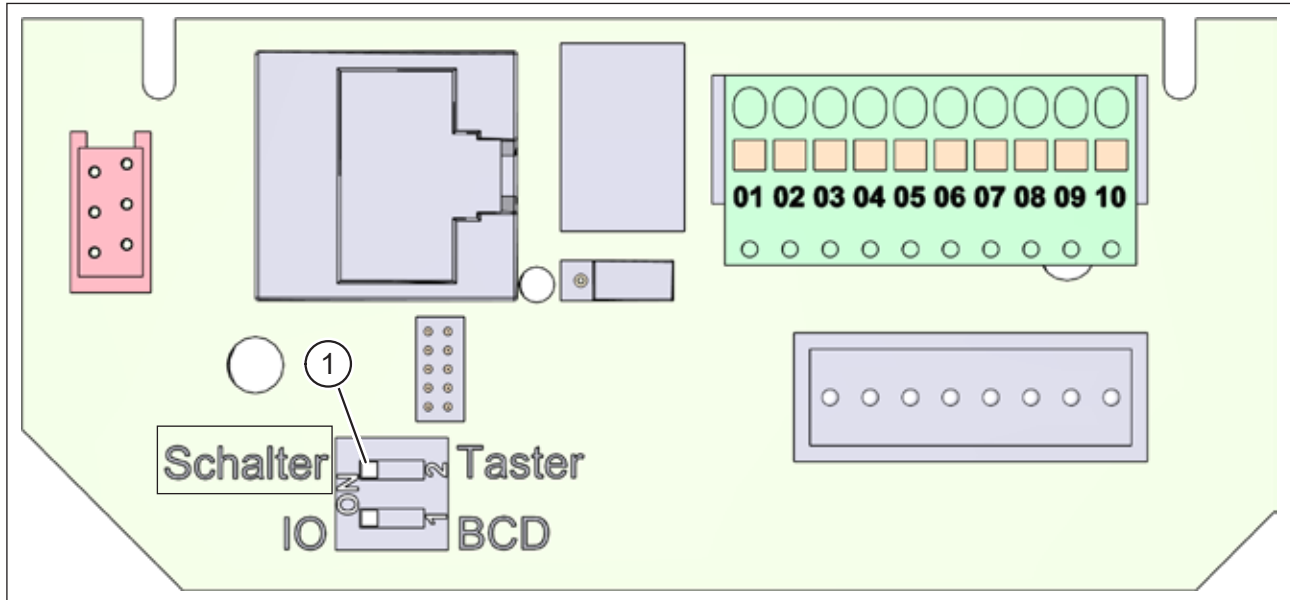

Fig. 36: Connection board in the ventilation unit with terminal assignment
DIP switch 2 (item 1 in Fig. 36) is set to the “Taster (pushbutton)” position at the factory. In association with the three-step rotary switch, DIP switch 2 must be set to the “Schalter (switch)” position.
- ▶ Set DIP switch 2 on the connection board to the “Schalter (switch)” position (see item 1 in Fig. 36 on page 54).